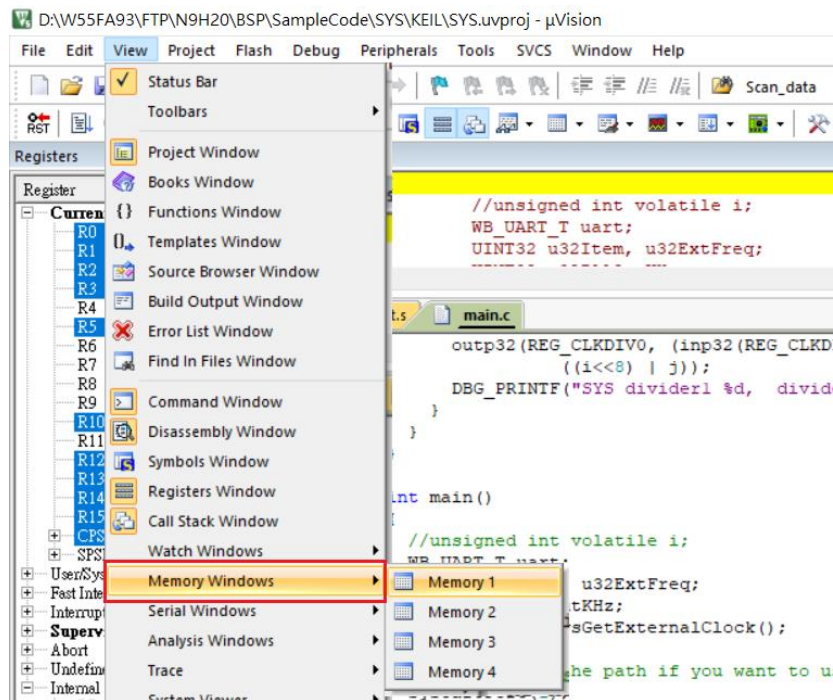
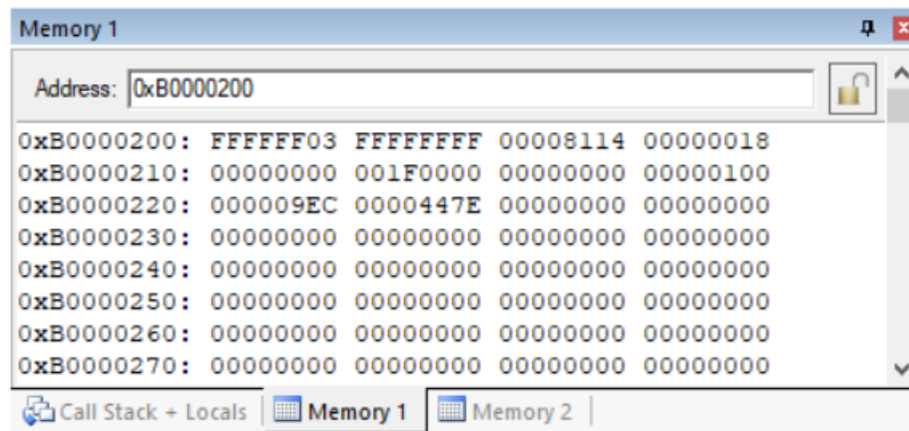

Figure 2-10 Memory Windows
Figure 2-11 Content of Clock Control Registers
- The **Memory** window shows the contents of the connected target's memory areas and allows the memory to be edited. Several memory windows can be used at a time. For example, the addresses 0xB0000200 shows content of clock control registers. Memory window and memory content as shown in Figure 2-10 and Figure 2-11 respectively.